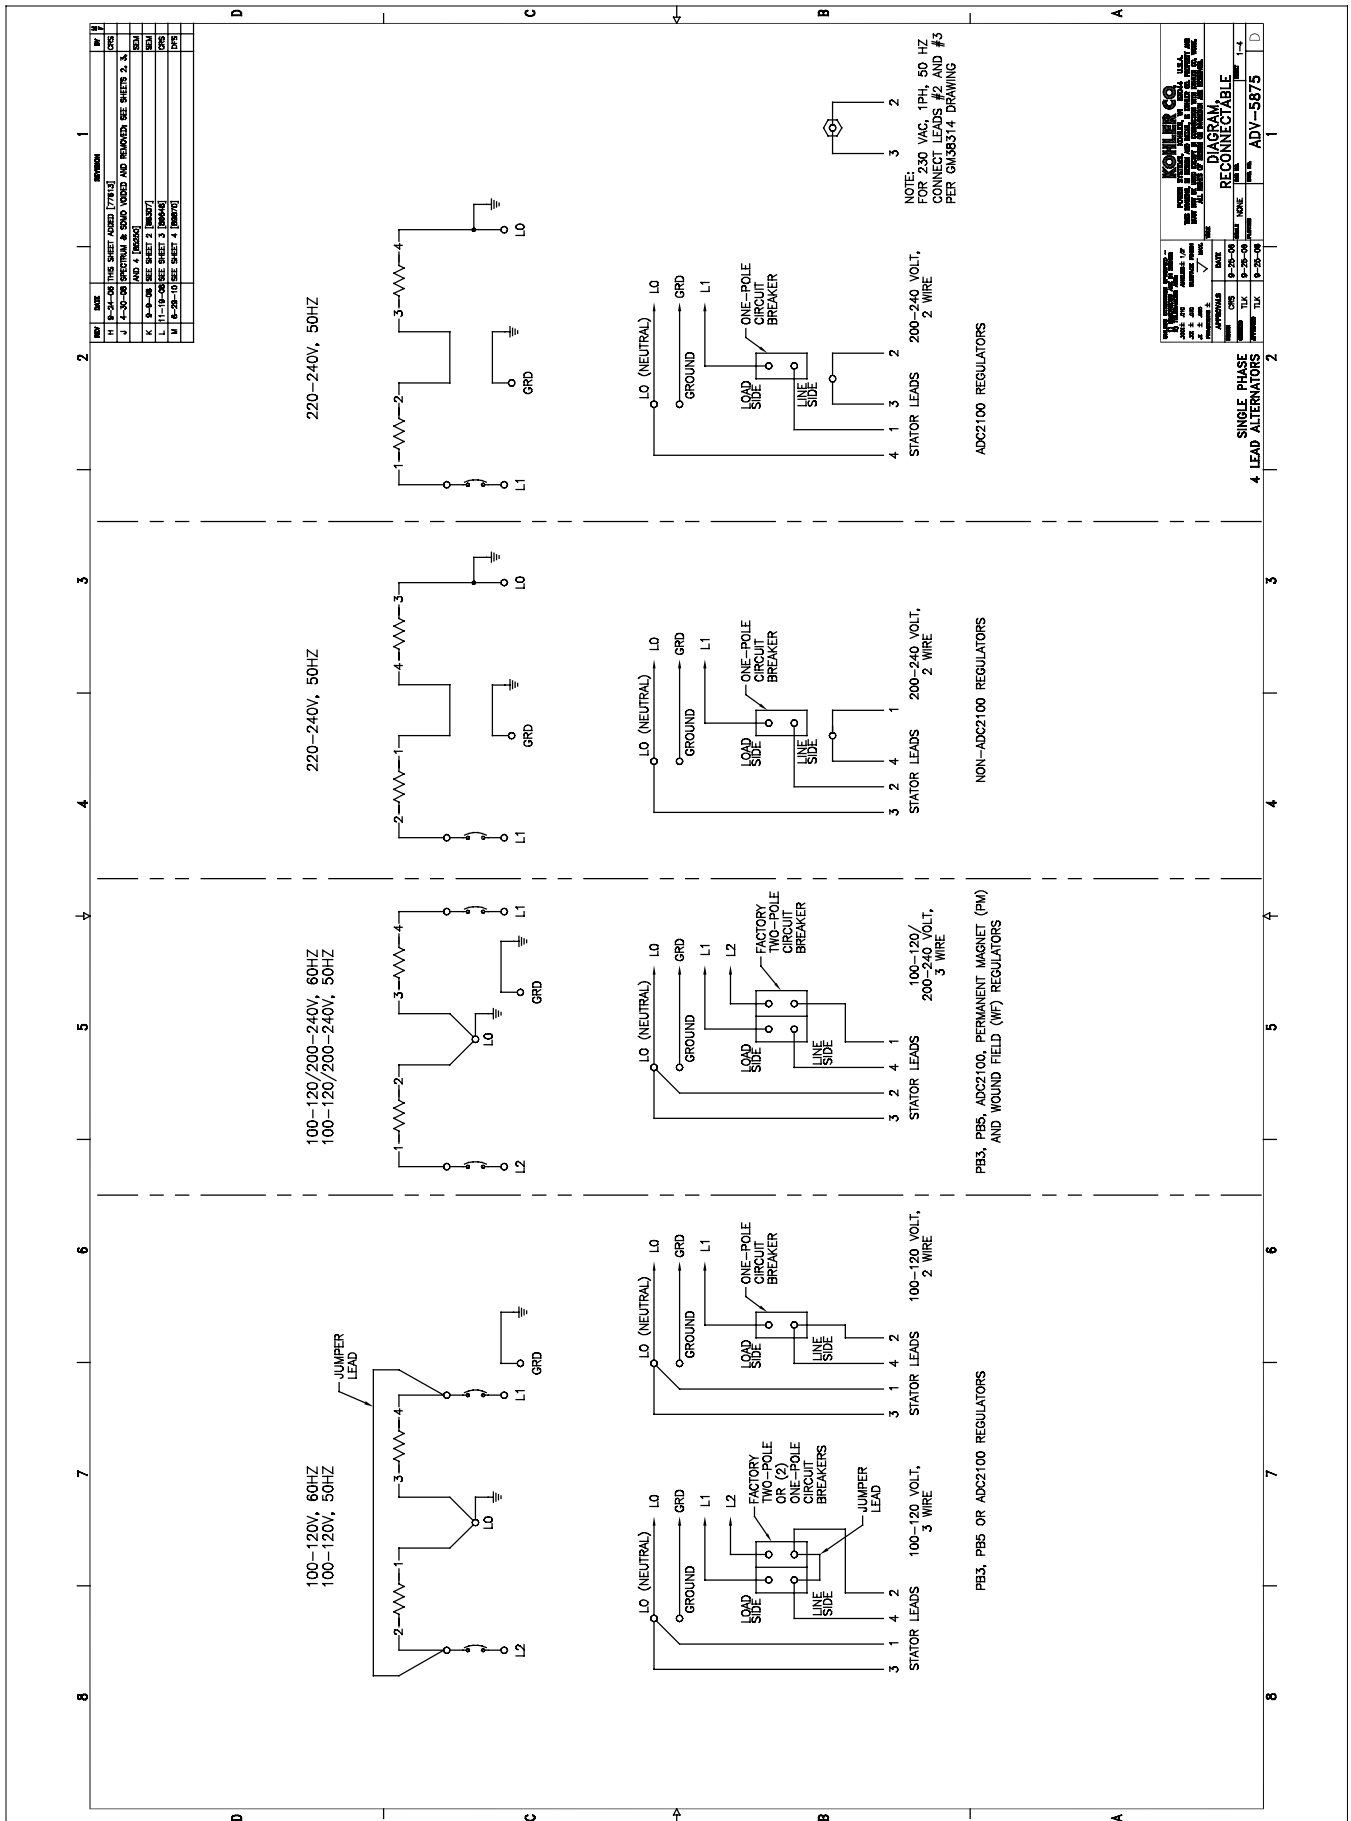
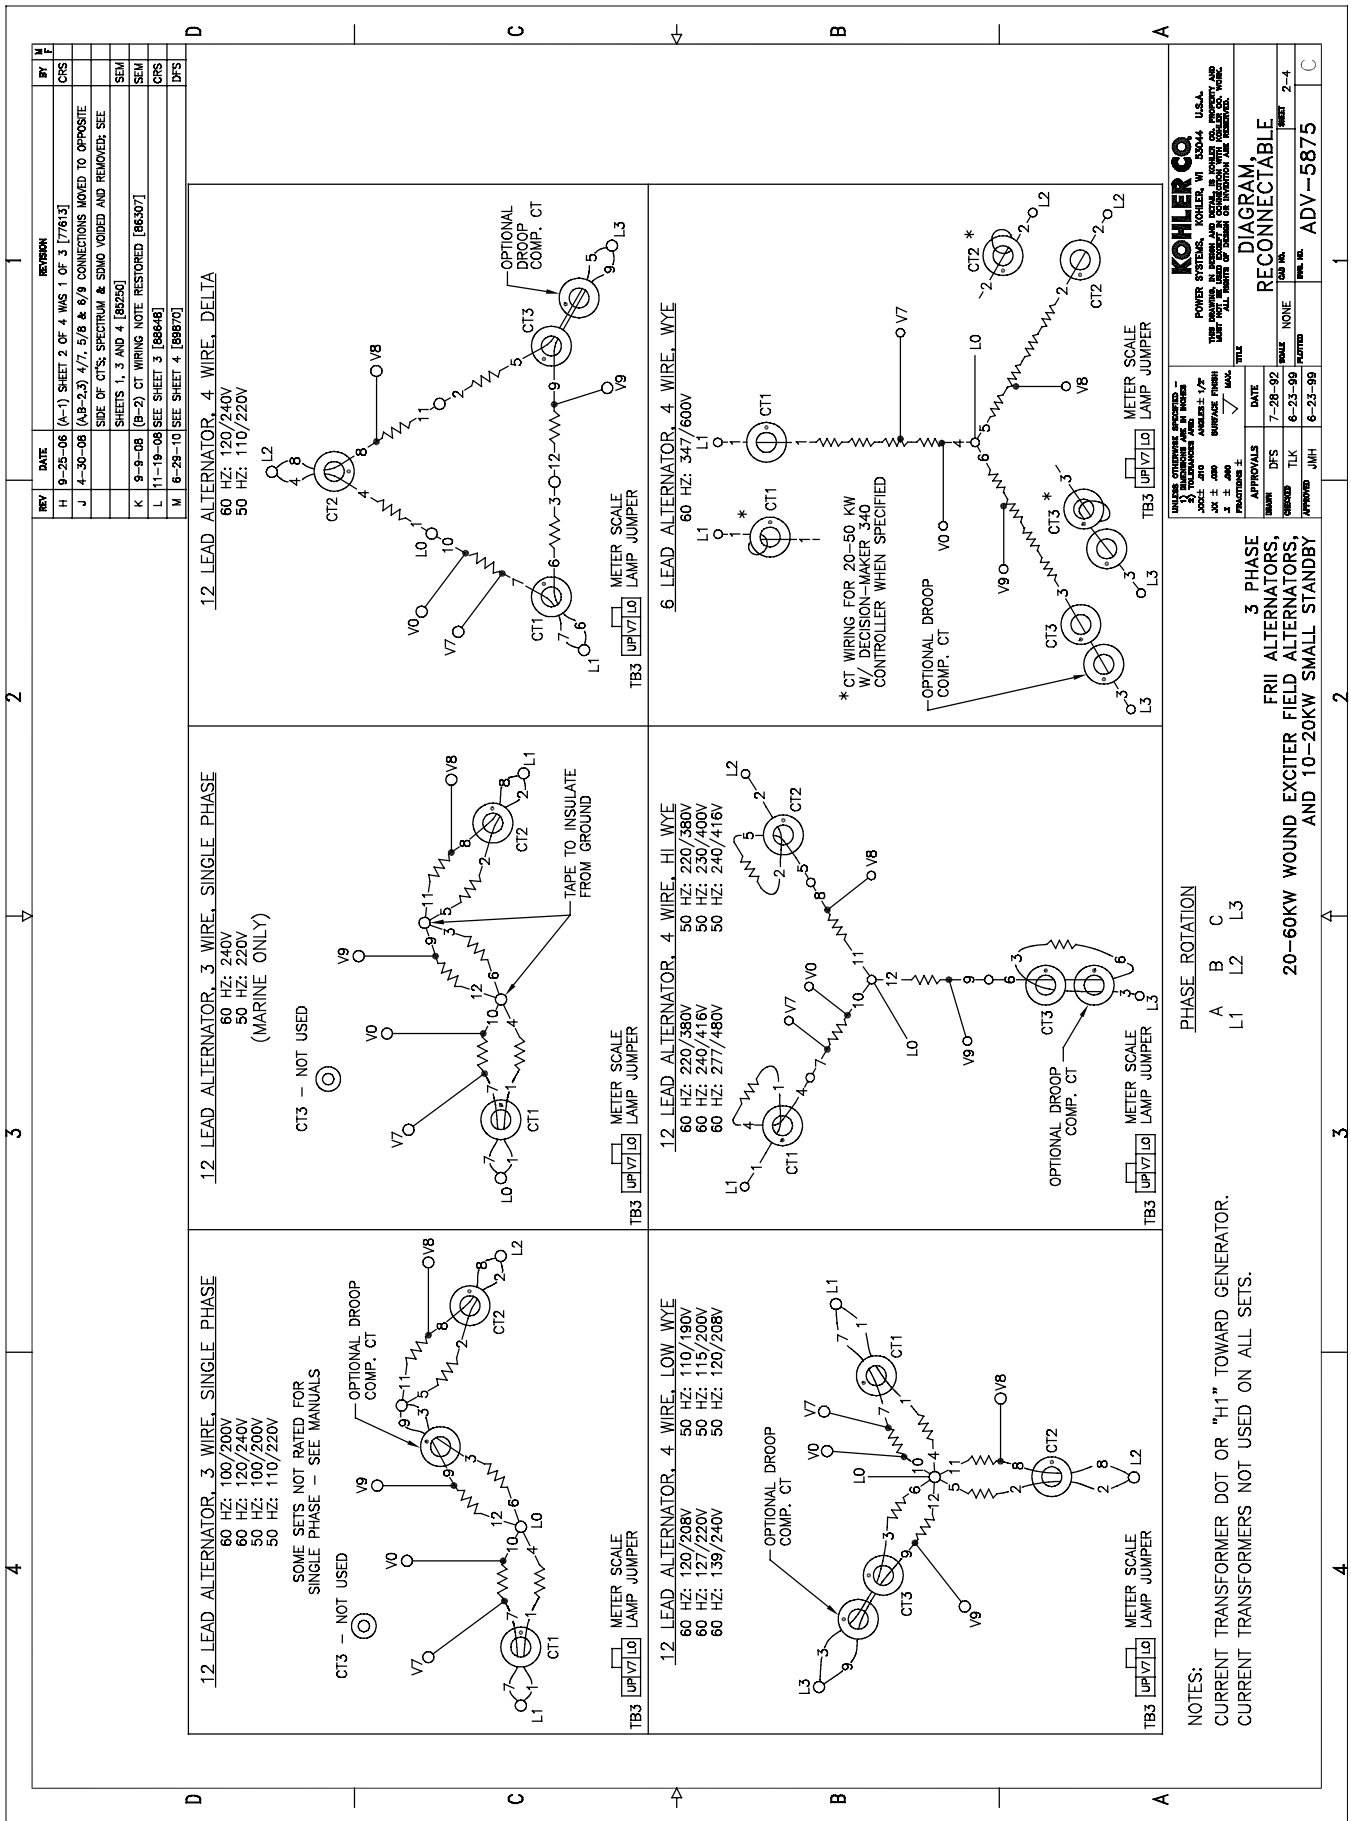
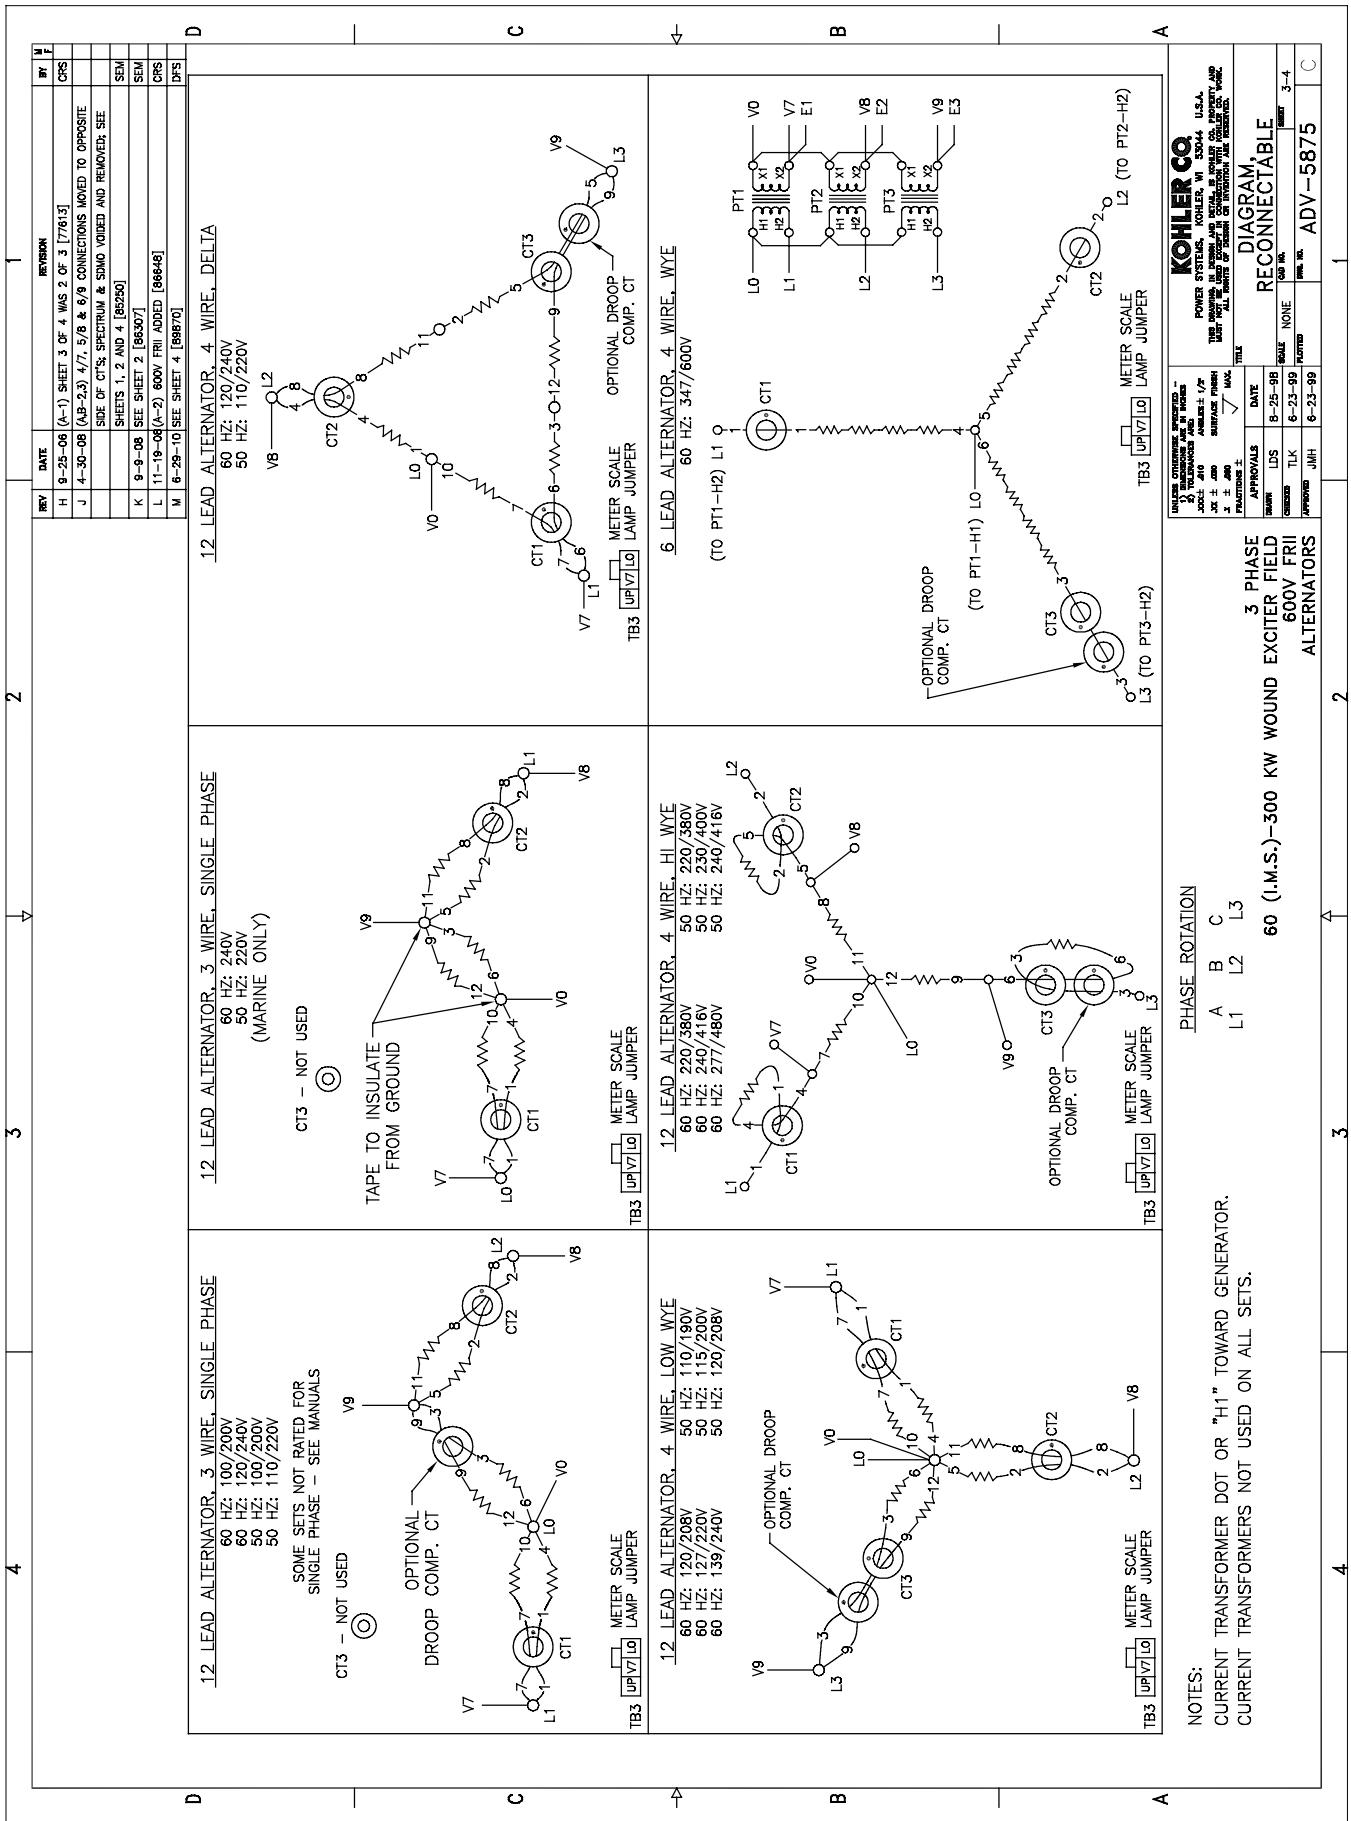

Figure 5-2 20-150 kW Permanent Magnet Single-Phase Alternators, ADV-5875A-M
Figure 5-3 20-300 kW (190-480 Volt) Permanent Magnet Alternators, ADV-5875B-M
Figure 5-4 20-300 kW (600 Volt) Alternators, ADV-5875C-M
8. Use Figure 5-2, Figure 5-3, or Figure 5-4 to determine the generator set voltage configuration. Note the original voltage and reconnect as needed. Route leads through current transformers (CTs) and connect them according to the diagram for the desired phase and voltage.
3. Use Figure 5-2, Figure 5-3, or Figure 5-4 to determine the generator set voltage configuration. Note the original voltage and reconnect as needed. Route leads through current transformers (CTs) and connect them according to the diagram for the desired phase and voltage.